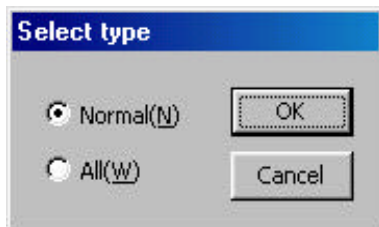

Figure 7.45 “Select type” dialog box
Click “Download (D)” in the “Index TypeB Menu” to display the “Select type” dialog box (see Figure 7.45).